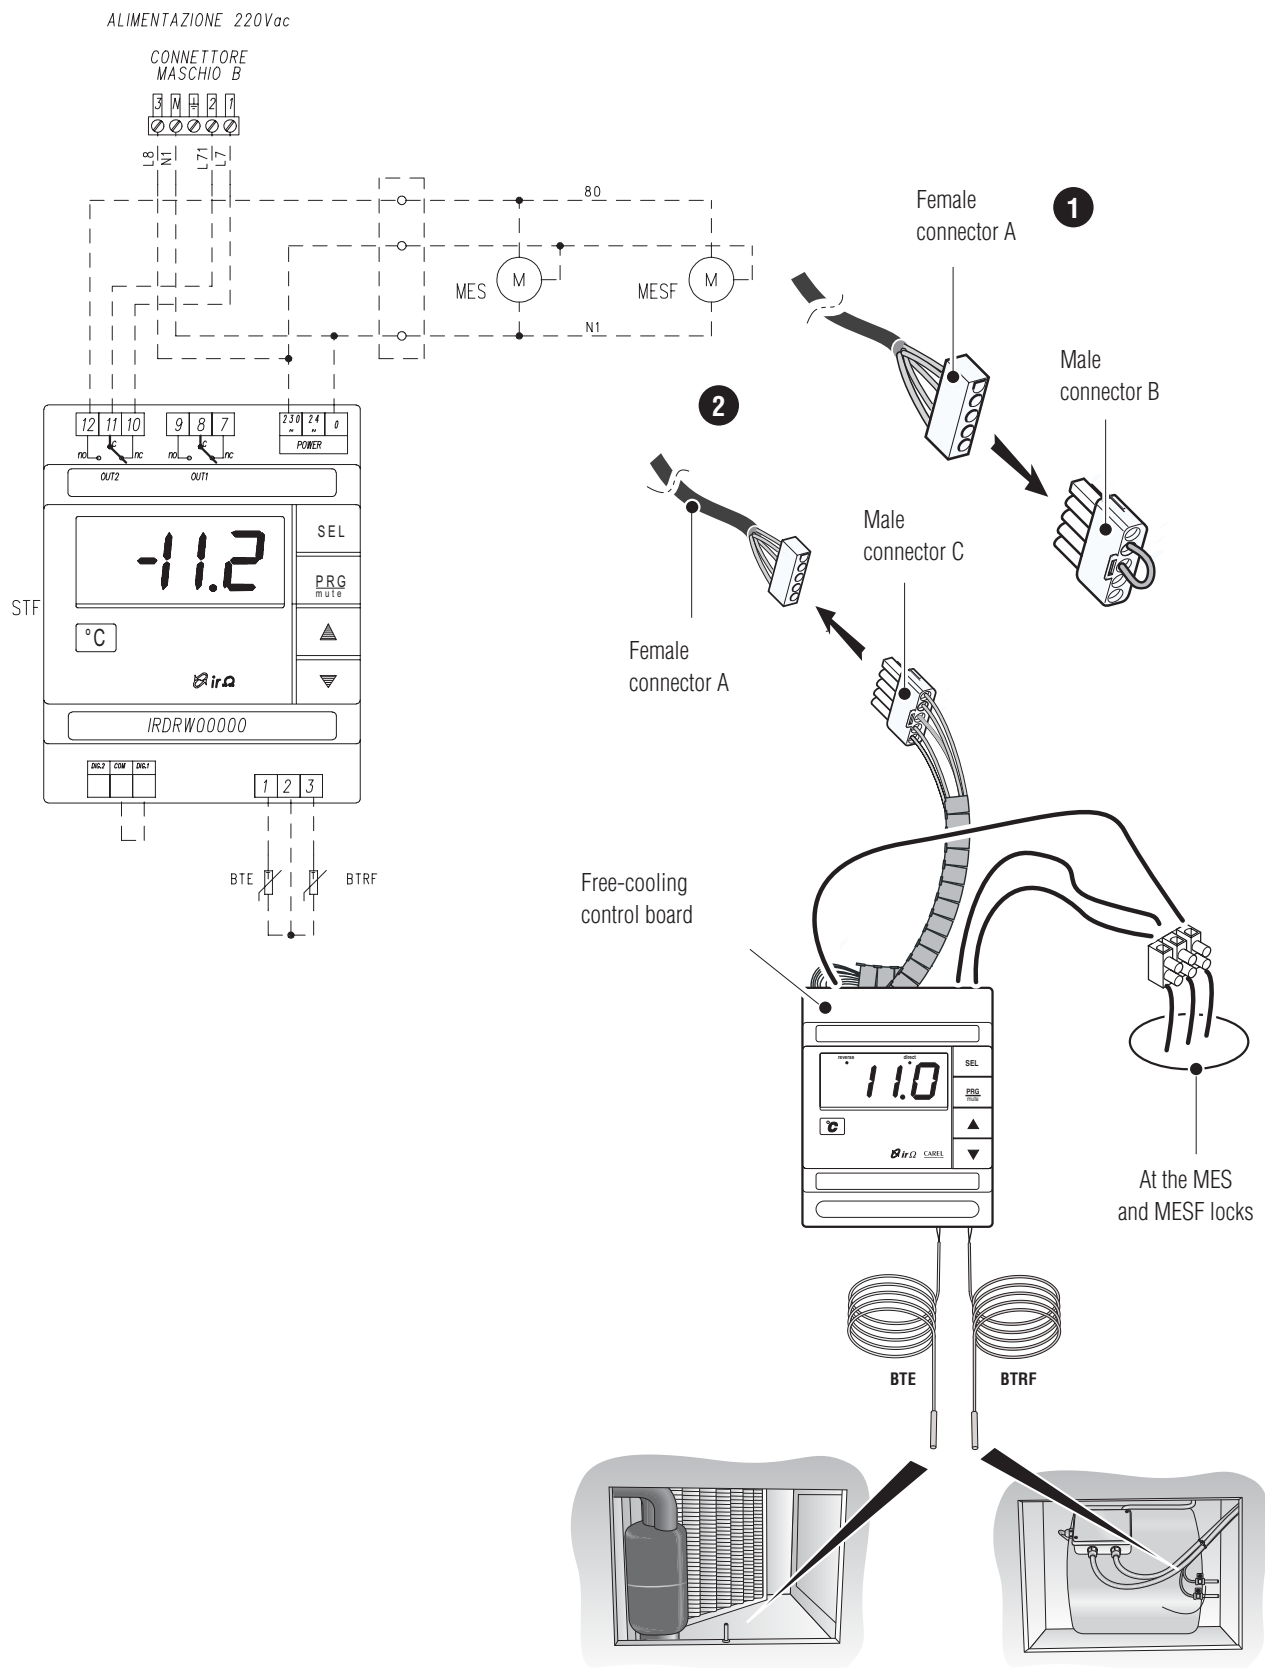

fig.14
- extract the male connector B of the panel (see the unit electrical layout in fig. 14) from the female connector A;